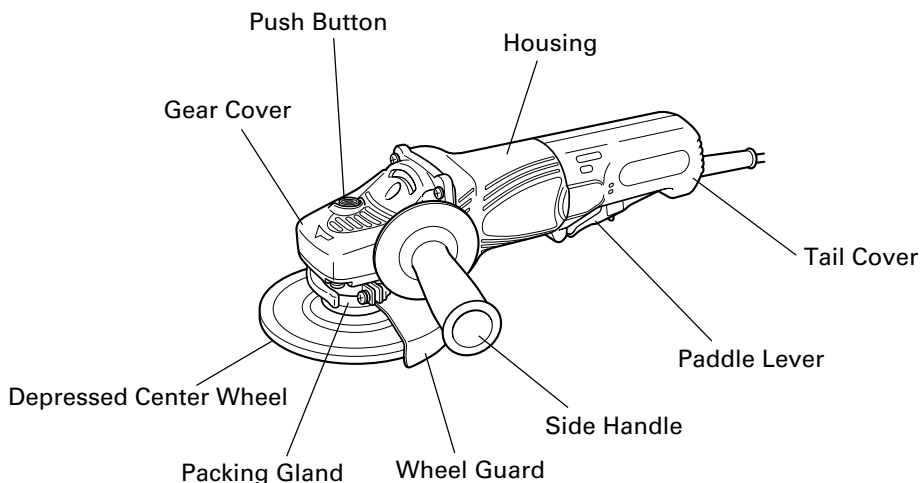

Fig.1
1. Hold the grinder firmly by its body handle and side handle (Fig. 1)